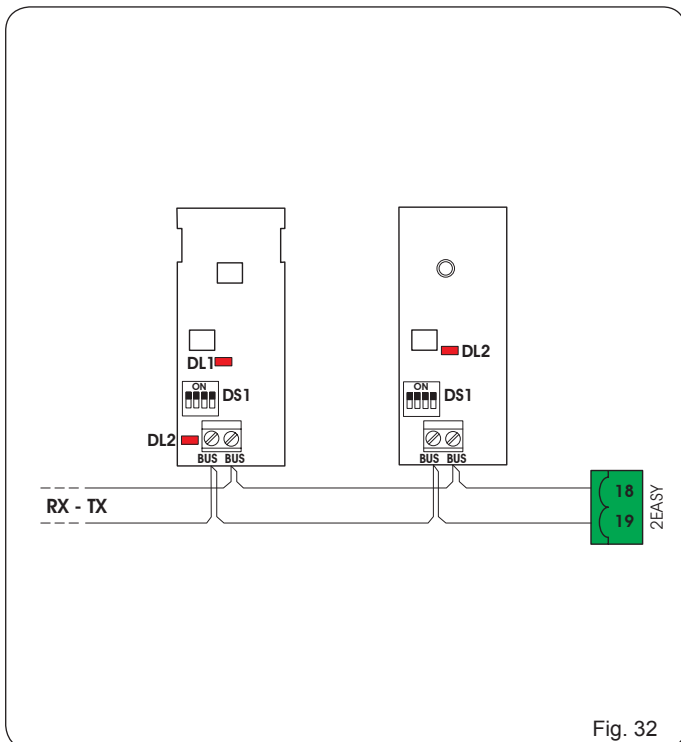
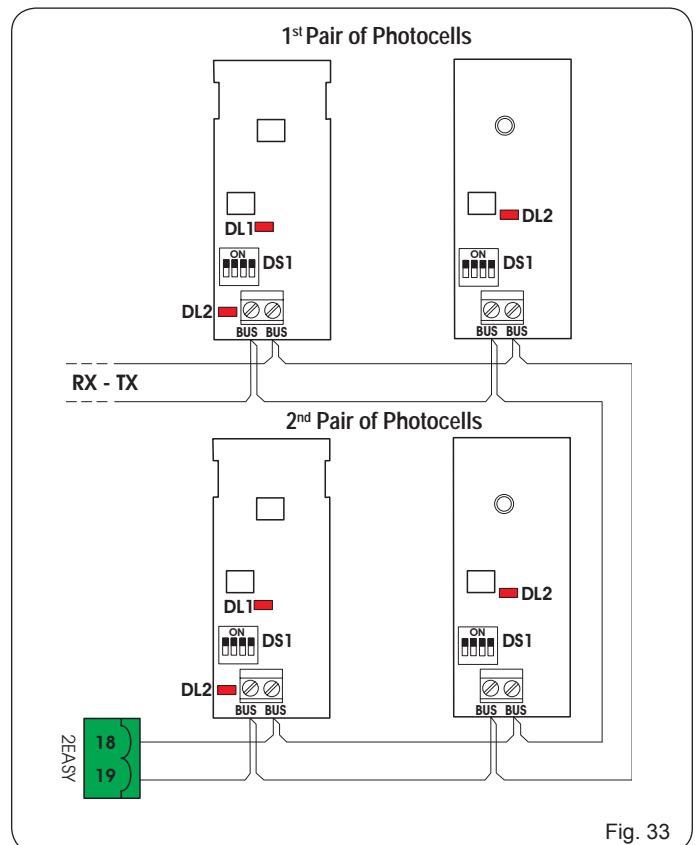

Fig. 32
Fig. 33
**⚠** If CLOSING safety devices are not connected, jumper terminals FSW CL and GND (Fig. 32).
**⚠** If STOP devices are not connected, jumper terminals STOP and GND (Fig. 32).
**⚠** If OPENING safety devices are not connected, jumper terminals FSW OP and GND (Fig. 32).
BUS-technology photocells are connected to the E850 control unit ALL IN PARALLEL, as shown in Fig. 32 and Fig. 33 using a single power supply/communication line.